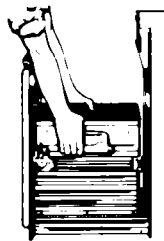

FIGURE 5
- b. Grasp side ridges of the drawer and lift drawer out. See Figure 5.